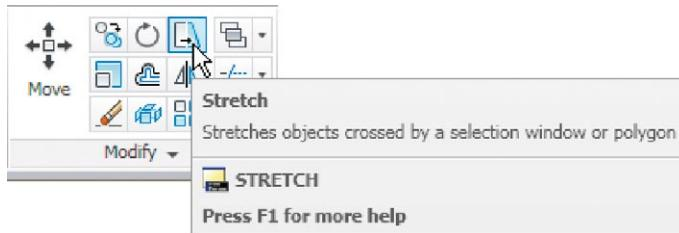

Fig. 5.33 The **Stretch** tool icon from the **Home/Modify** panel
2. Call the **Stretch** tool – either *click* on its tool icon in the **Home/Modify** panel (Fig. 5.33), *pick* its name in the **Modify** drop-down menu or *enter* **s** or **stretch** at the command line, which shows:
1. When circles are windowed with the crossing window no stretching can take place. This is why, in the case of the first example in Fig. 5.33, when the **second point of displacement** was picked, there was no result – the outline did not stretch.